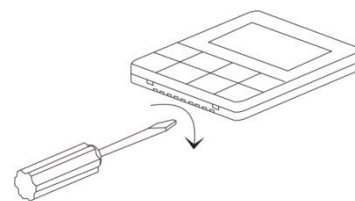

Fig.1
2. As shown in Fig.1, use a flathead screw driver to pry the bottom groove of the wire controller lightly (too much force would damage circuit board), pry rotationally to open the back cover.